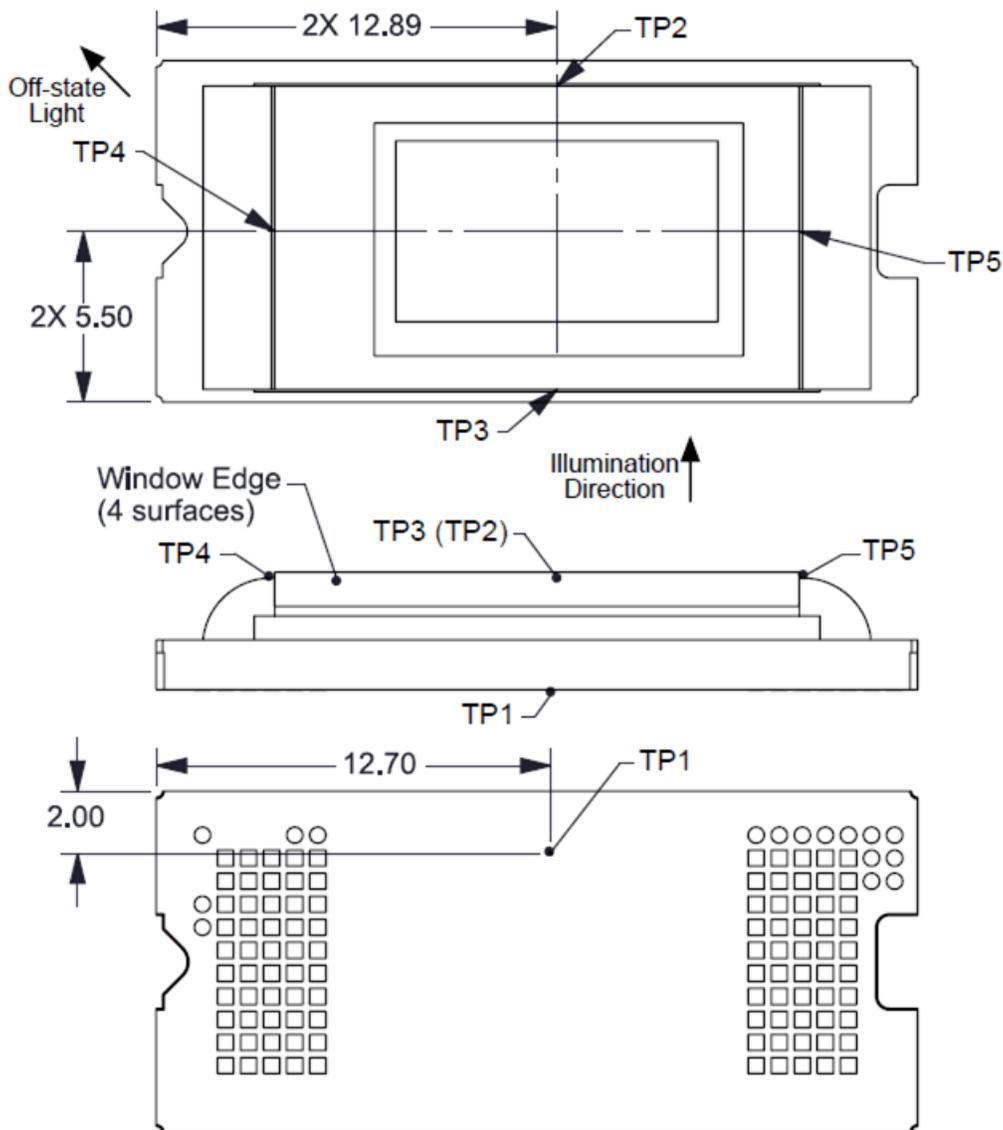

Figure 18. DMD Thermal Test Points
- T_{CERAMIC} = Measured ceramic temperature (°C), TP1 location in Figure 18
- Q_{ARRAY} = Total DMD power; electrical, specified in Electrical Characteristics, plus absorbed (calculated) (W)
- $Q_{\text{ELECTRICAL}}$ = Nominal DMD electrical power dissipation (W), specified in Electrical Characteristics
- SL = Measured ANSI screen lumens (lm) (3)